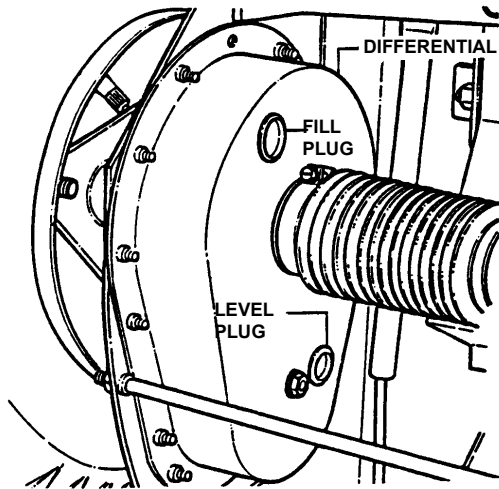

FIGURE 3.7
2. To check lubricant, remove fill/level plug and visually inspect for lubricant on the internal parts of the differential. If no lubricant is visible on the internal parts of the differential, add "SNAPPER Transmission" grease as needed. See Figure 3.7.